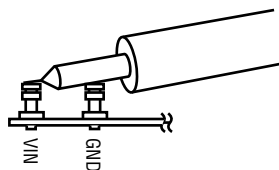

Figure 2. Measuring Input or Output Ripple
**NOTE:** When measuring the input or output voltage ripple, care must be taken to avoid a long ground lead on the oscilloscope probe. Measure the input or output voltage ripple by touching the probe tip directly across the  $V_{IN}$  or  $V_{OUT}$  and GND terminals. See the proper scope probe technique in Figure 2.
5. Set the load current of both outputs to 3A and the input voltage to 12V, then measure each output ripple voltage (refer to Figure 2 for the proper measurement technique). Each should measure less than 20mVAC. Also, observe the voltage waveform at either switch node (Pins 23 and 24 for channel 1, and Pins 13 and 14 for channel 2) of each regulator. Both switch node waveforms should be rectangular in shape, and 180° out-of-phase with each other. The switching frequencies should be between 800kHz and 1.2MHz ( $T = 1.25\mu$ s and 0.833 $\mu$ s).